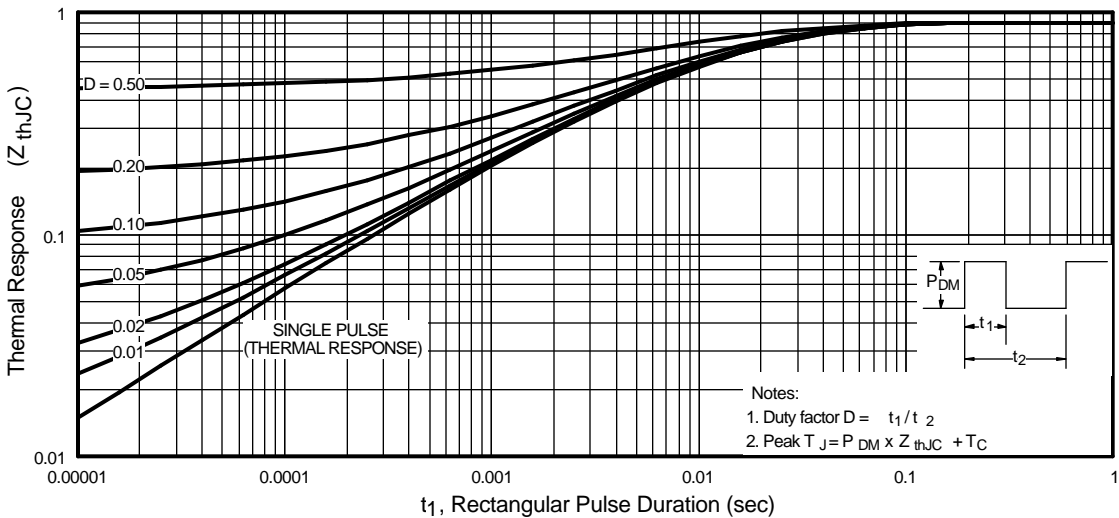

Fig 11. Maximum Effective Transient Thermal Impedance, Junction-to-Case
① Repetitive rating; pulse width limited by max. junction temperature. (See fig. 11)
② $V_{DD} = 25V$, starting $T_J = 25^\circ\text{C}$, $L = 320\mu H$